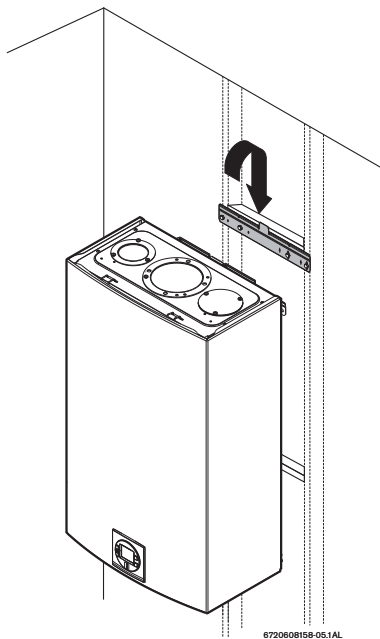

Fig. 27 Mounting the heater
- ▶ Hang the appliance on the bracket, see Fig. 27, page 23.